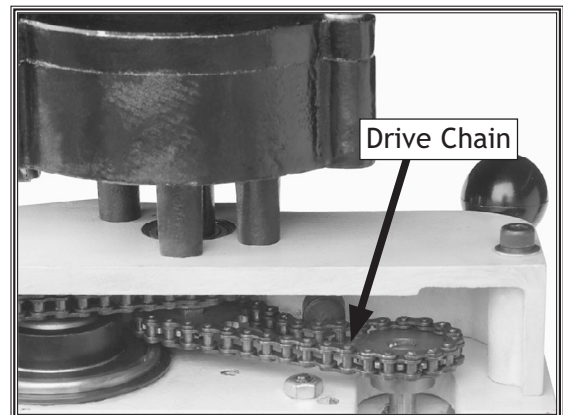

Figure 50. Drive chain assembly.
4. Place the nozzle under the chain housing, and vacuum out all dust. Then brush a coat of light machine oil or motor oil on the drive chains (**Figure 50**).